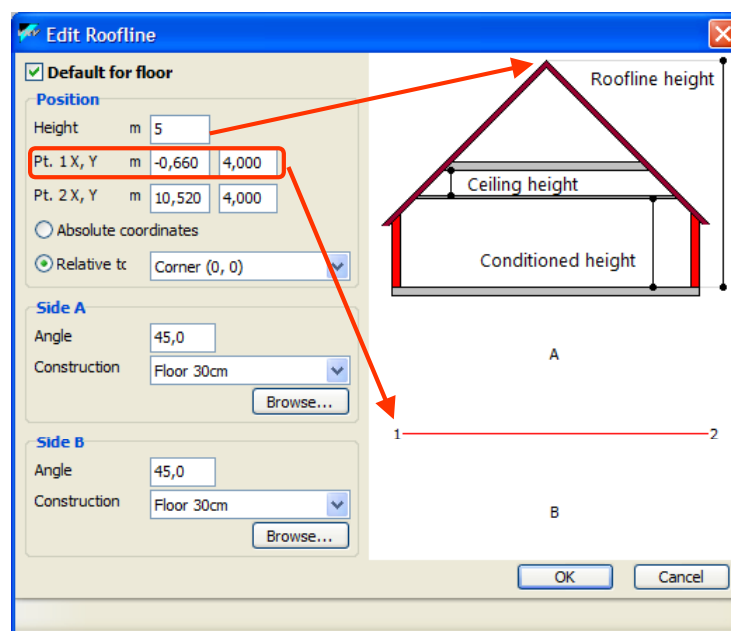

Figure 165: The roofline edit window
A roofline defines the top line of a slanted roof. The slanted sides of the roof may cut a part of the walls of the top floor. Before explaining how to draw a roofline, Figure 165 shows the edit window of a roofline, containing a schematic overview of its parameters:
- Depending on the slope angle on both sides and the roof height, the roof cuts the vertical walls of the floor, as shown in the small picture in Figure 165. A slope may vary from 0° (a flat roof) up to 65° (a very steep roof).
has no influence on the result, only its angle. As the roofline edit window has its "**Default for floor**" checkmark checked in Figure 165, VRVPro applies the roof to all rooms on that floor.